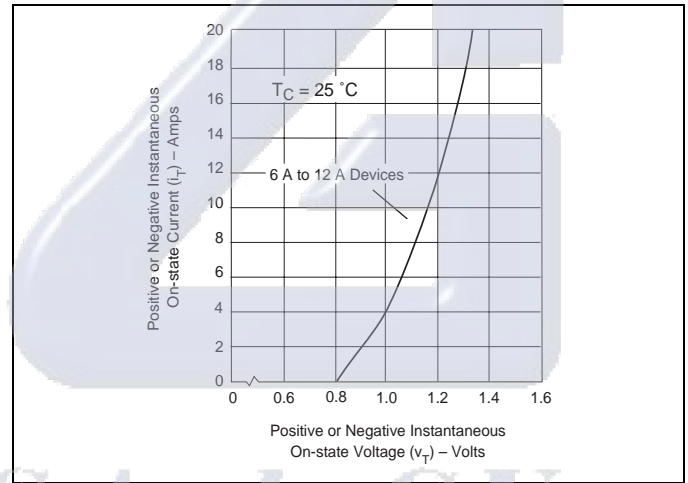
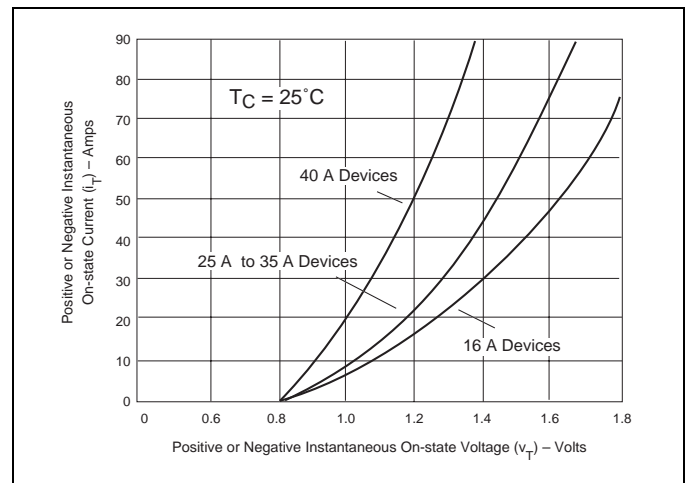

Figure E4.5 On-state Current versus On-state Voltage (Typical) (6 A to 12 A)
Figure E4.6 On-state Current versus On-state Voltage (Typical) (16 A to 40 A)
- See Figure E4.5 and Figure E4.6 for I_T and v_T.